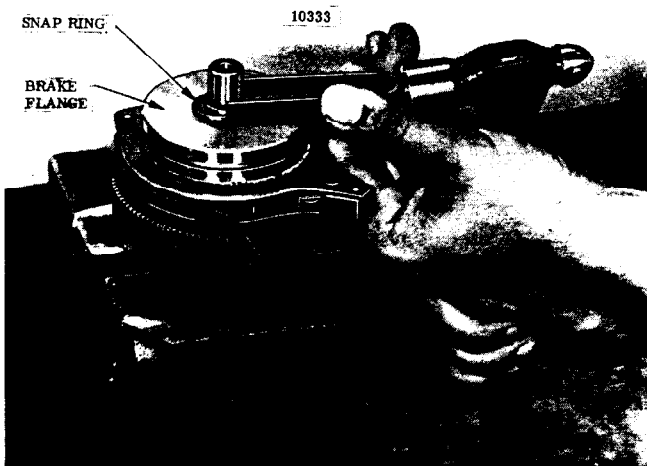

Figure 5-6. Removing Snap Ring from Load Brake Shaft.
(1) Place load brake assembly, flange up, in a vise equipped with brass or copper jaw plates to protect pinion gear teeth. Remove snap ring from end of load brake shaft (Fig. 5-6).